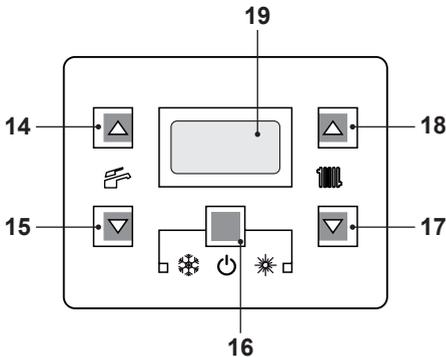
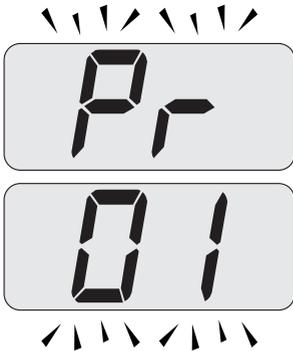
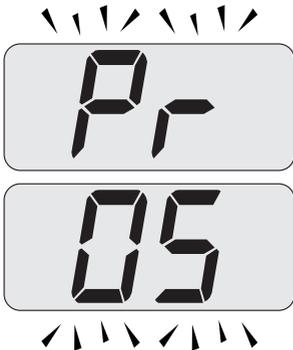
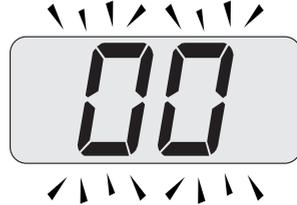

Fig. 9.3
Fig. 9.4
Fig. 9.5
Fig. 9.6
- Enter in "programming mode" by sequentially pressing and holding in keys 16 - 17 - 18 (Fig. 9.3) for 10 seconds until the letters **Pr** that alternate with code **01** are displayed on the LCD display, indicating that "parameter 01" (Fig. 9.4) has been activated.
- Scroll the various parameters using keys 17 or 18 until the letters **Pr** that alternate with code **05** are displayed on the LCD display, indicating that "parameter 05" (Fig. 9.5) has been activated.
- Press keys 16 and 18 (Fig. 9.3) at the same time until the value of parameter 05 (00=G20) is displayed on the LCD display (Fig. 9.6).
- By pressing key 18 three times, it is possible to change the value of parameter 05 from **00**=G20 to **05**=G31, which is ok for LPG gas.
- By pressing key 16 (Fig. 9.3) confirmation of the inserted value is obtained.
- Press keys 16 and 17 (Fig. 9.3) at the same time to exit without changing the value (return to the parameters list Fig. 9.5).
- Press sequentially keys, 16 - 17 and then 18 (Fig. 9.3) and hold in for 10 seconds to exit the "programming mode".